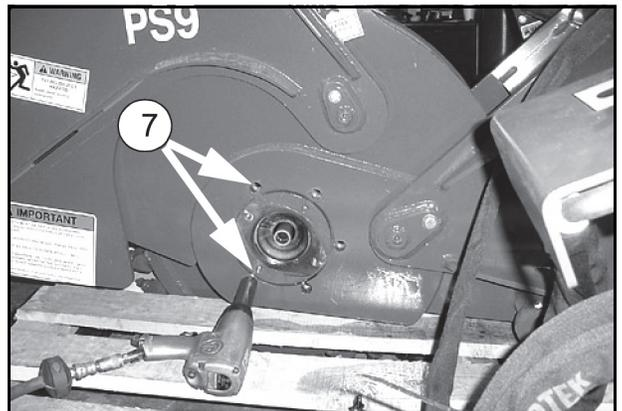

Figure 16.
3. Align the holes in the gearbox with the corresponding holes in the mount plate so the motor mount holes are roughly in the 3 o'clock and 9 o'clock positions as shown in Figure 16.
5. Install the six gearbox mounting bolts and washers (7) as shown in Figure 16.